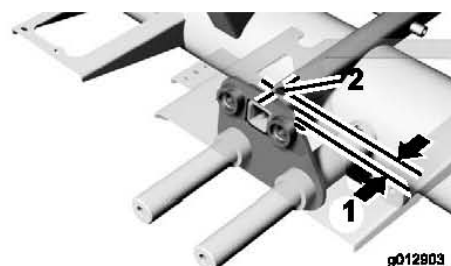

Figure 3
5. Using the dimension shown in Figure 3, locate, mark and drill a 5/8 inch diameter hole through the top and bottom walls of the frame tube. Center the holes on the tube.